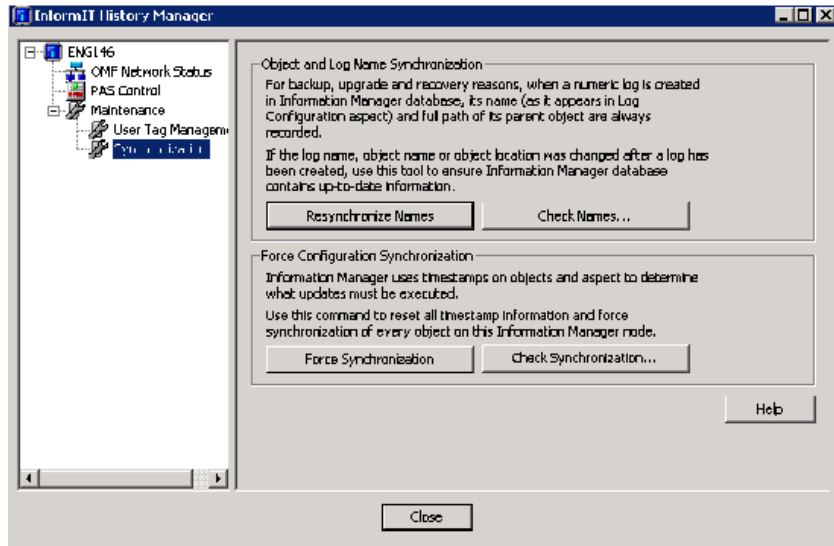

Figure 22. Inform IT History Manager
- Expand the Maintenance tree in the Preview Area and select Synchronization. The Inform IT History Manager shown in Figure 22 appears in the Preview Area.